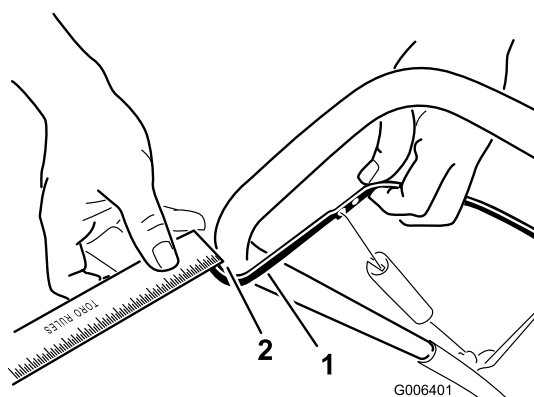

Figure 24
Move the control bar back toward the handle to remove the slack in the control cable (Figure 24).
Note: Ensure that a 2 mm to 3 mm (1/16-inch to 1/8-inch) gap exists between the control bar and the handle (Figure 24).
2. Move the Z-fitting to a higher or lower hole on the adjuster link as needed to obtain the 1/16-inch to 1/8-inch (2 mm to 3 mm) gap between the control bar and the handle (Figure 24).